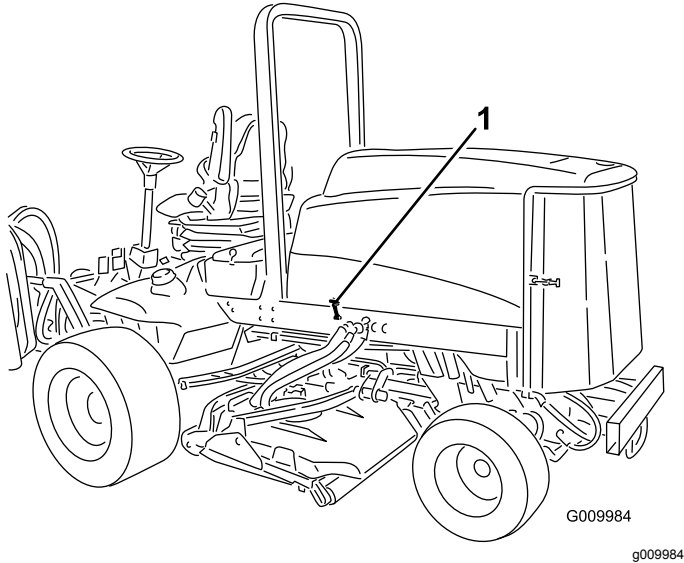

Figure 18
1. Release hood latches (Figure 18) and pivot open the hood.